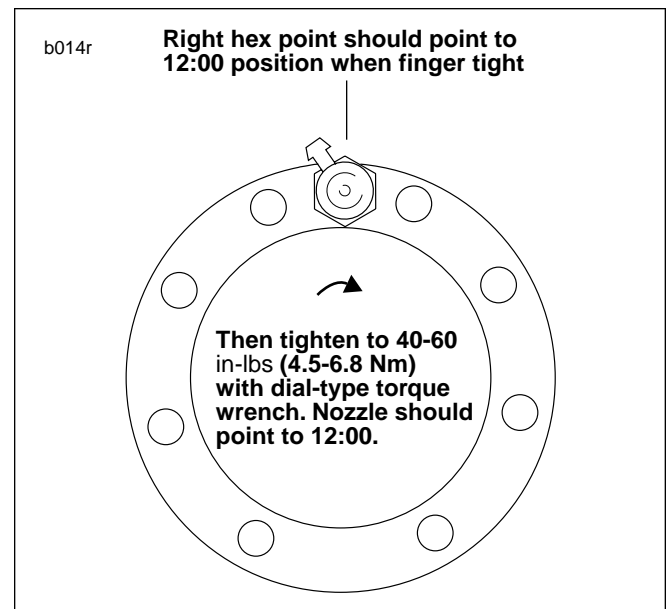

Figure 4. Fuel Tank Vent Alignment
6. See Figure 4. Align fitting so right front point of hex is oriented to 12:00 position when fitting is tightened finger tight. Make sure O-ring remains in groove of fitting while tightening.